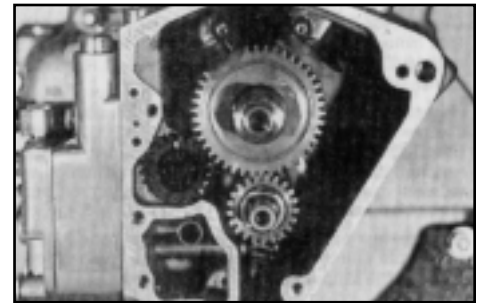

Fig. 3
5. Turn the engine over until timing marks on the cam gear are aligned on the pinion and breather gears. Rotate engine backwards until pinion gear timing mark is approximately 3 teeth to left of the crank gear (Fig. 3).